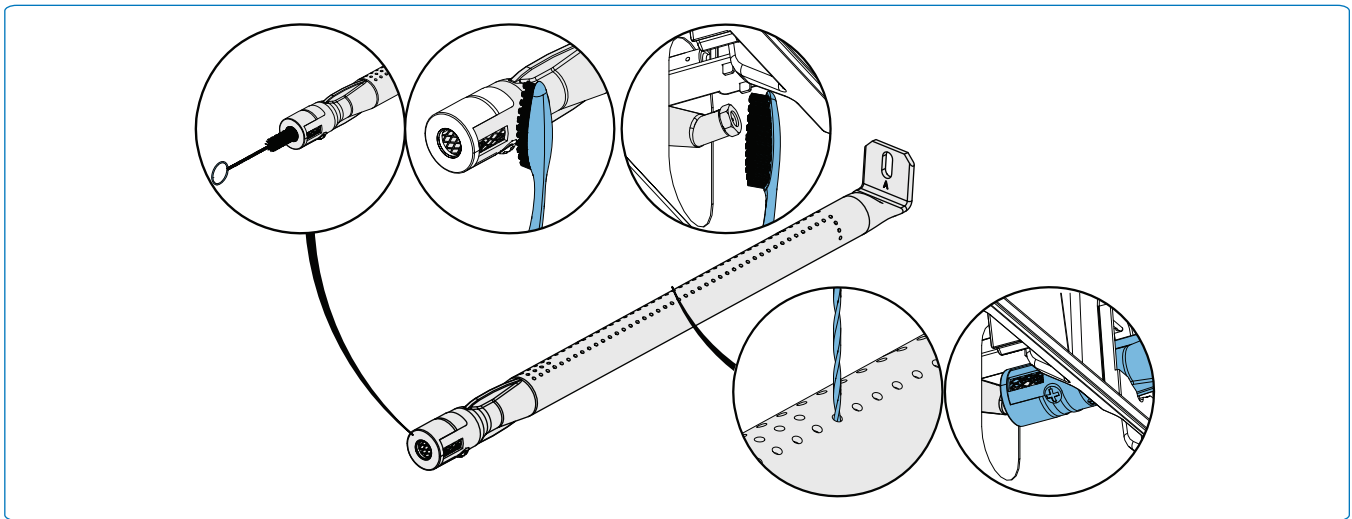

Fig. 16
1. Remove the screw (s) that attaches the burner to the back wall of the grill. Slide the burner back and upwards to remove. **(Fig.16)**.